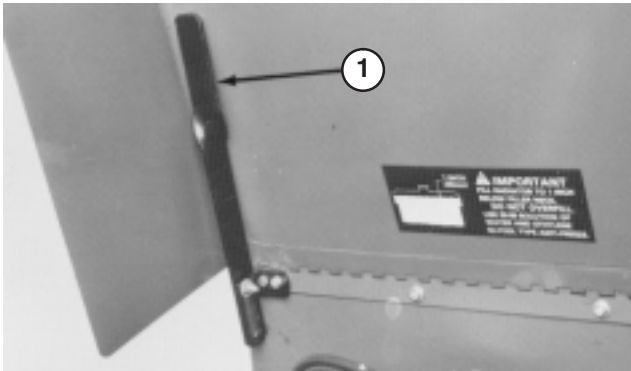

Figure 12
3. Slide bottom of hood prop (Fig. 12) out of retaining bracket. Lower hood prop, pivot upward, then downward to prop up hood.